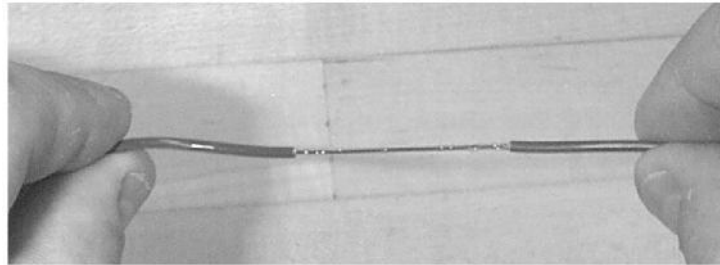

Figure 14 - Remove the buffer tube from the fibres
4.14 Remove the buffer tube segment with steady pulling force to expose the fibres, repeat until correct length is exposed. (Figure 14)